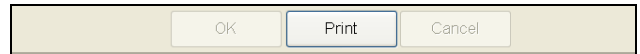

Figure 4.5.4
4. Then click on the **Print** button at the bottom of the “**Controller Details**” screen (Figure 4.5.4).